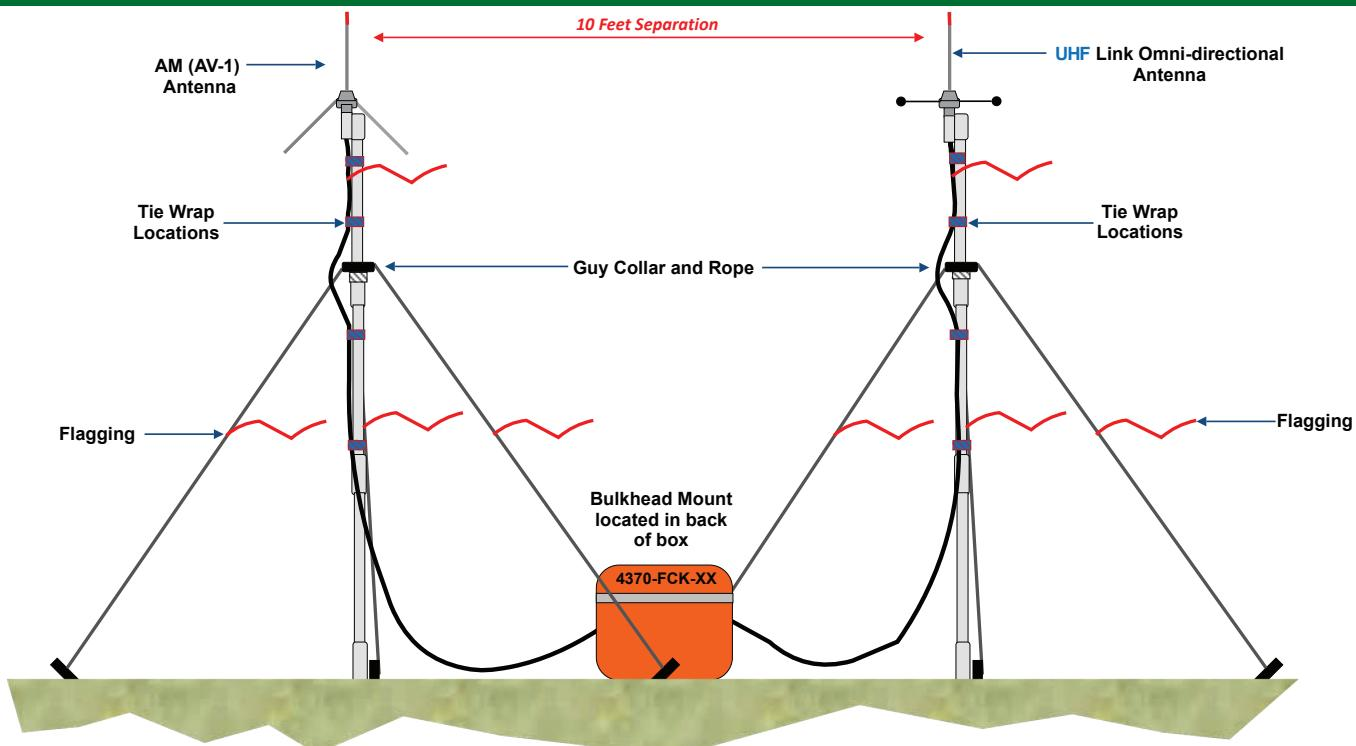

Figure 1:
- Setup the AV-1 (**AM**) antenna according to the illustration. (**See Figure 1**)
- Setup the **UHF** omni-directional antenna according to the illustration. (**See Figure 1**)
2. Coaxial Cable (**See Figure 1**)